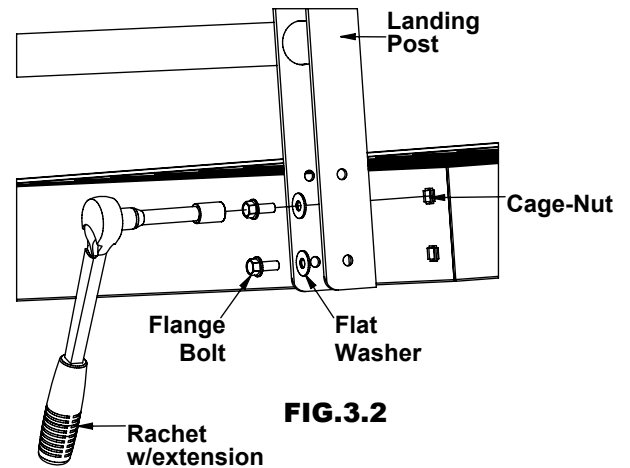

FIG.3.2
3.1 HANDRAIL TO PLATFORM ATTACHMENT: Align the holes at the bottom of handrail post with the pre-installed cage-nuts in the landing base. Place a 5/16x3/4 flange bolt through flat washer and slotted holes in landing post thread flange bolt into cage-nut, do not fully tighten bolts until each bolt has been started (Fig.3.2). Repeat this process at each post location. **NOTE:** Setting platform base on saw horses will make attaching handrail quicker and easier.